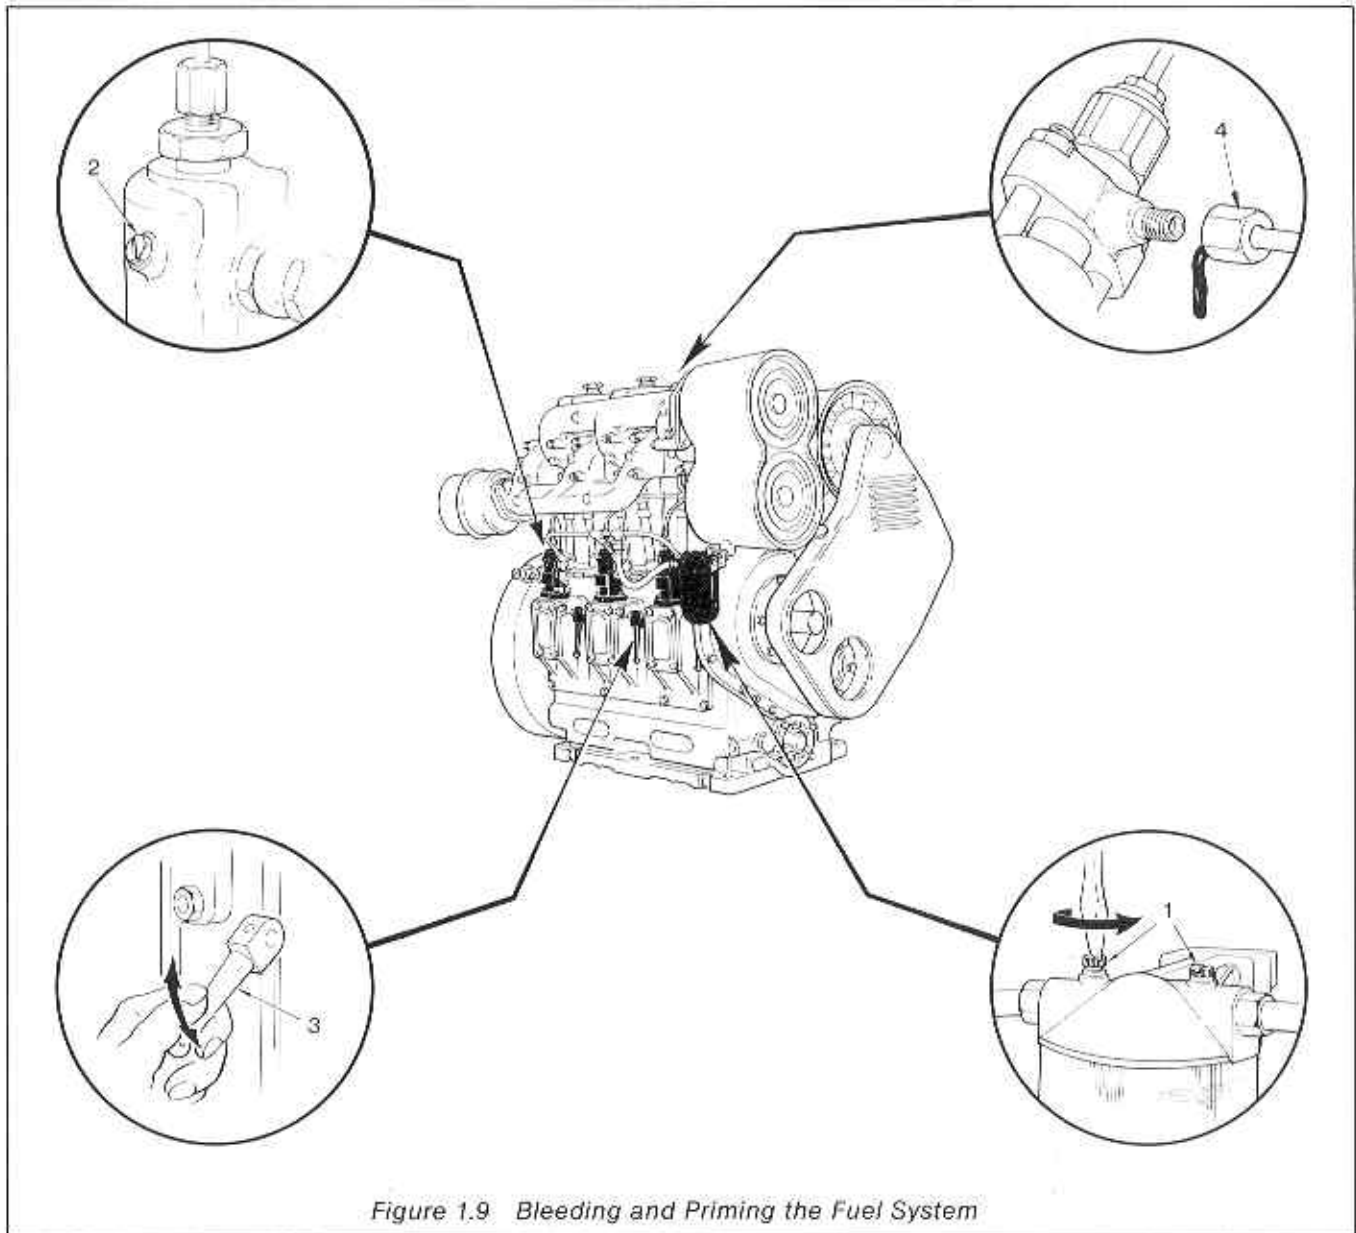

Figure 1.9 Bleeding and Priming the Fuel System
1.44 To bleed and prime the fuel system, each cylinder (in the case of multi-cylinder engines) must be done in turn. The flywheel TDC mark, must be set for the appropriate cylinder about half a revolution away from the pointer before top dead centre. If a fuel lift pump is fitted fuel will not flow unless the lift pump priming lever is operated. With reference to Figure 1.9 carry out the following procedure: